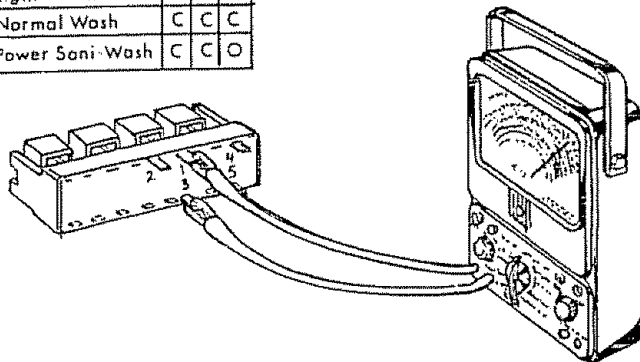

FIGURE 57
3. Disconnect leads from the switch and connect leads of ohmmeter to terminals on the switch as they are designated in the "Cycle Selection Switch Functions" chart. (Figure 57). For example, begin with the first column under "Cycle Selection Switch Functions." Connect one ohmmeter lead to the "1" terminal and the other lead to the "3" terminal. Press each of the four buttons and compare ohmmeter reading with chart. If chart shows switch "OPEN" (O) no continuity should register on ohmmeter when button is pressed. If "CLOSED" (C) continuity should register on ohmmeter when button is pressed.
Follow this checking procedure through all cycle switch positions, being certain the ohmmeter leads are connected to the proper terminals. Failure of switch to register as shown on the chart indicates a defective switch and it must be replaced. (Figure 57)